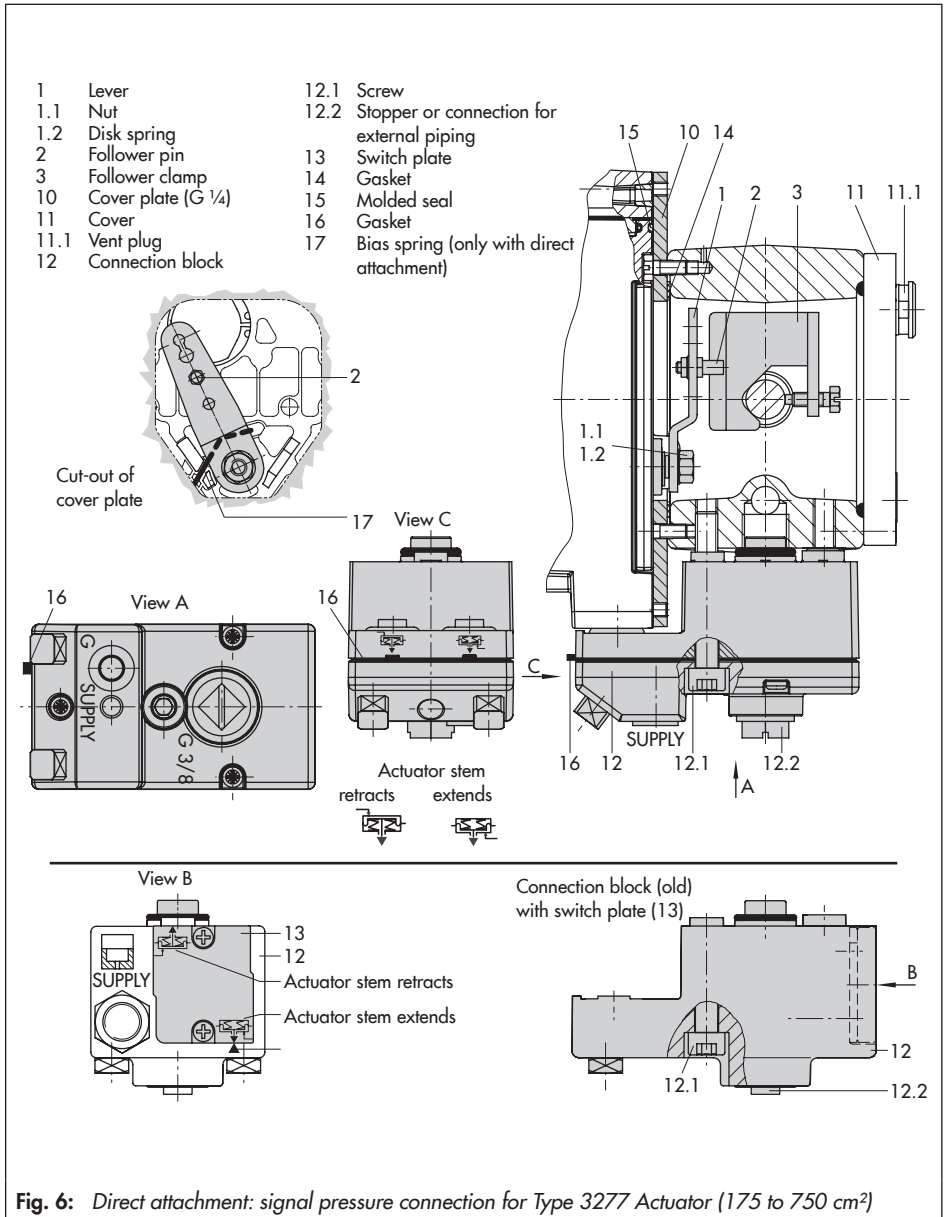

Fig. 6: Direct attachment: signal pressure connection for Type 3277 Actuator (175 to 750 cm²)
Mount the positioner on the yoke as shown in Fig. 6. The signal pressure is routed to the actuator over the connection block (12), for actuators with fail-safe action "actuator stem extends" internally through a hole in the valve yoke and for "actuator stem retracts" through an external pipe.
1. Place follower clamp (3) on the actuator stem, align it and screw tight so that the mounting screw is located in the groove of the actuator stem.
2. Mount cover plate (10) with narrow side of the cut-out (Fig. 6, on the left) pointing towards the signal pressure connection. Make sure that the gasket (14) points towards the actuator yoke.
4. Insert the molded seal (15) into the groove of the positioner enclosure, pressing the four retaining rings over the enclosure screws and both fittings into the enclosure recesses.
5. Thread the bias spring (17) through the crosspiece underneath the lever (1) and push it into the hole in the enclosure. Push the lever (1) until it engages into place. Place the positioner on the cover plate (10) and fasten it using the three fastening screws. Check whether the follower pin (2) rests on top of the follower clamp (3). The lever (1) must rest on the follower clamp with spring force.
6. Make sure that the tip of the gasket (16) projecting from the side of the connection block is positioned to match the actuator symbol for the actuator's fail-safe action "actuator stem extends" or "actuator stem retracts". If this is not the case, unscrew the three fastening screws and lift off the cover. Turn the gasket (16) by 180° and re-insert it. The old connection block version (Fig. 6, bottom) requires the switch plate (13) to be turned to align the actuator symbol with the arrow marking.